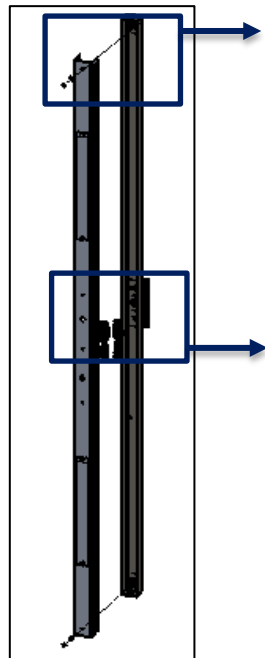

FIG. 5- REFLECTOR DIS-ASSEMBLY
3. Remove REFLECTOR from the BACK BOX, by removing two HEX NUTS and LOCK WASHERS disconnect the REFLECTOR from the BACK BOX at the WIRE WHIP as shown below in FIG. 5 and 6.
9. Slide REFLECTOR onto the BACK BOX over the long bolts. Tighten REFLECTOR with the HEX NUTS provided as shown in FIG.5. Be careful not to over tighten.